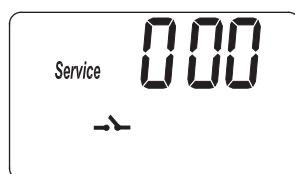

FIG. 26
1. Press and hold the PROGRAM button until the screen in Figure 26 is displayed. Once in this display, press the PROGRAM button once and one of the two displays in Figure 27 is shown.